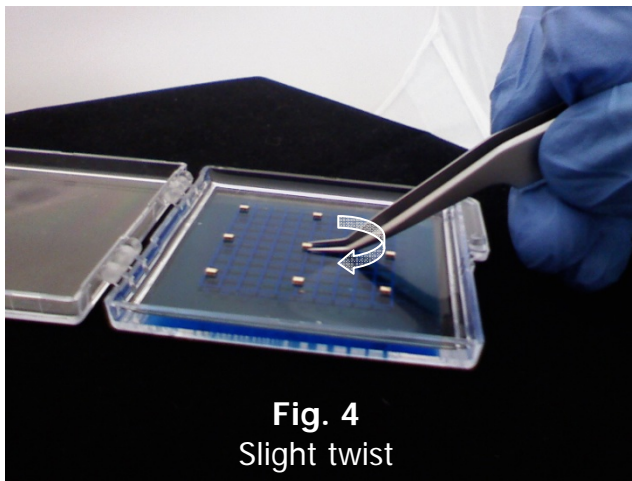

Fig. 4
4. Slightly rotate the HV14 module to loosen the adhesive [Fig. 4]